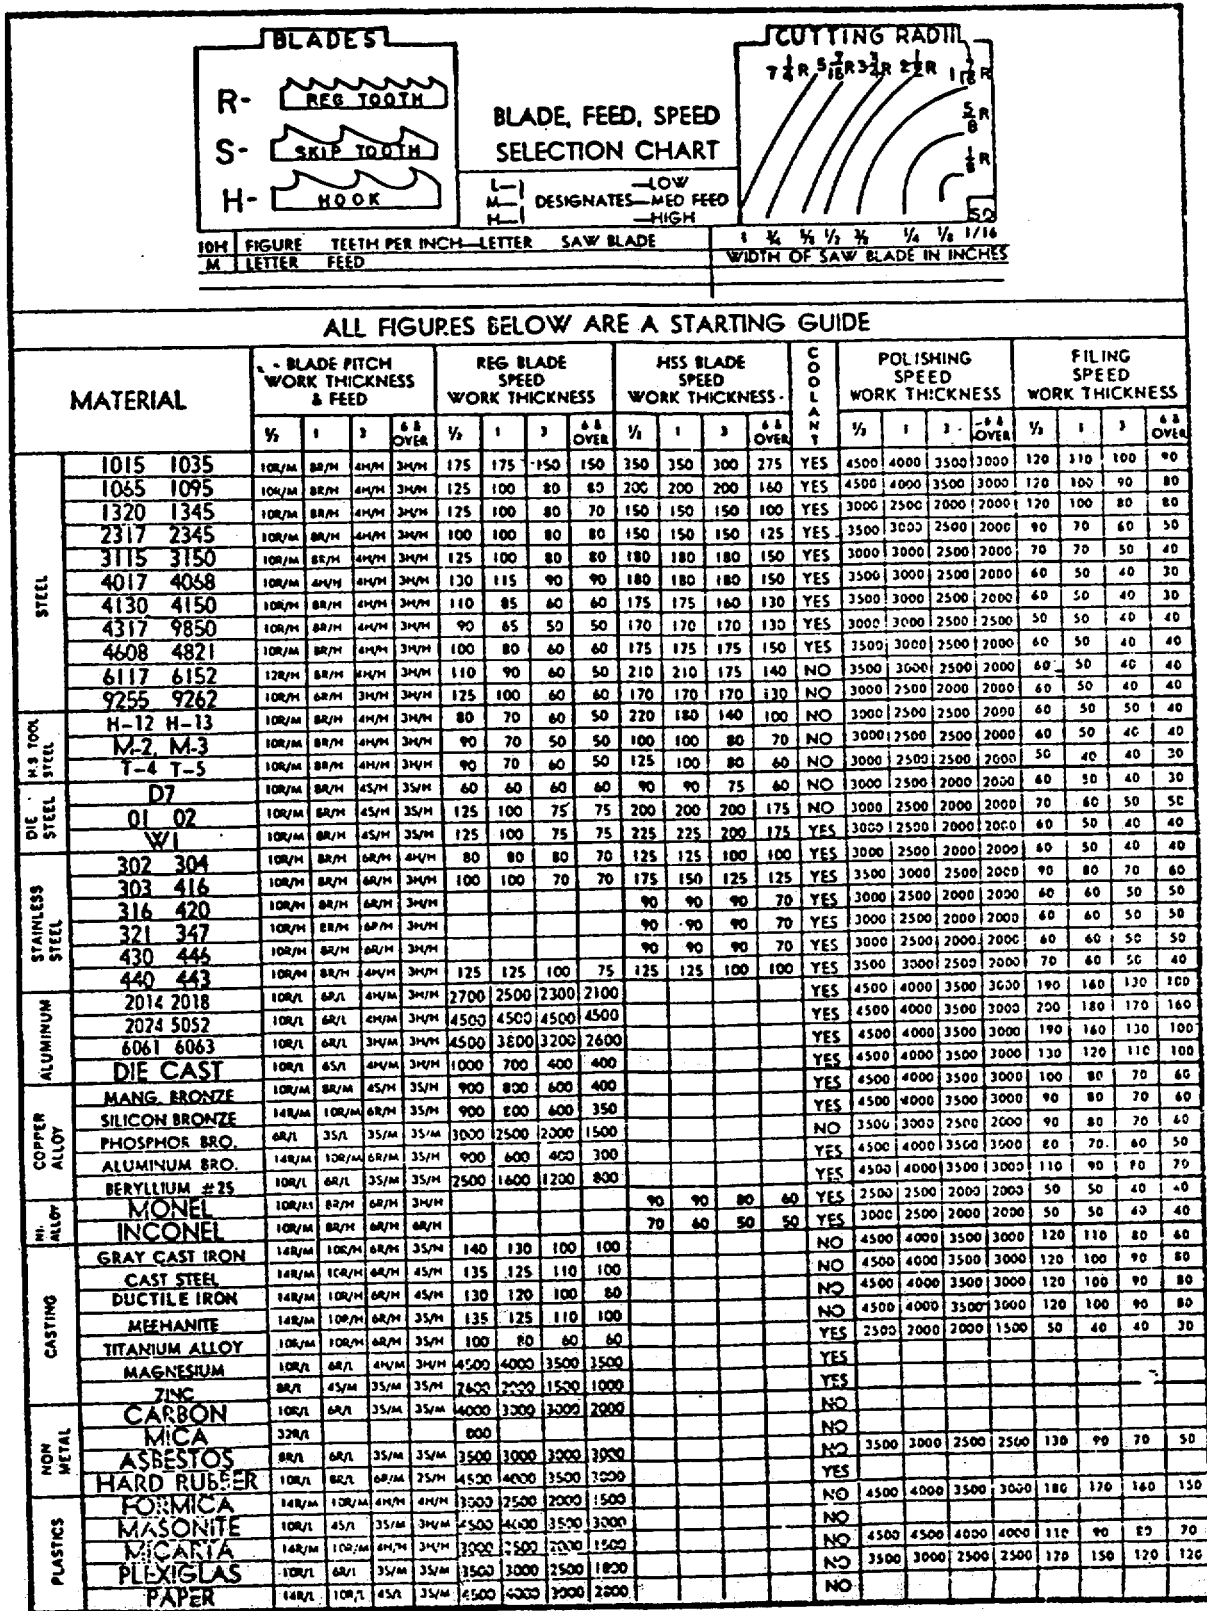
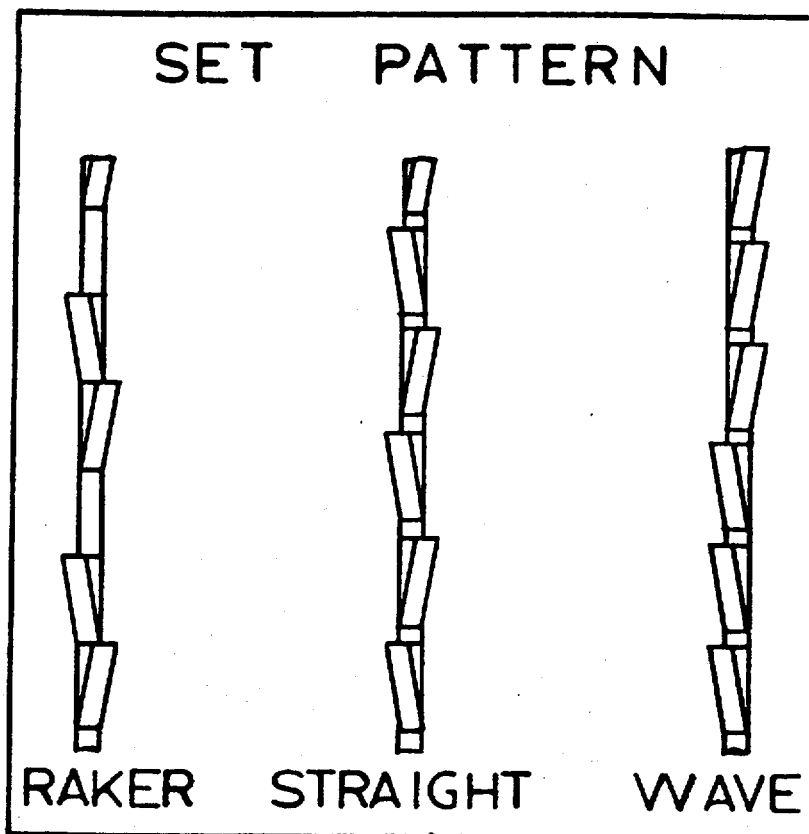

FIGURE 6.
Figure 7. Saw Blade Set Patterns.
The tooth forms are shown in figure 6. In general, the thicker the workpiece, the coarser the pitch of the blade used. Follow the recommendations shown in figure 6 or pitch selection. Set patterns used on band saw blades are shown in figure 7. The raker set is one of the two most commonly used in metal cutting. The other is the wavy set used where the cross section of the work changes such as in cutting of pipe tubing and structurals. The straight set is used for blades to cut wood and plastics. Band materials may be carbon steel, carbon steel with a high speed welded edge, carbon steel with carbide tips, carbon steel with diamond tips, and high speed steel. Caution: Never run a high speed blade over 500 SFM.
1. Using the speed and feed chart (fig.6) or a good band sawing reference, select the speed, feed rate, blade (with reference to the radius chart when applicable), and coolant recommendations for the material and the thickness to be cut.